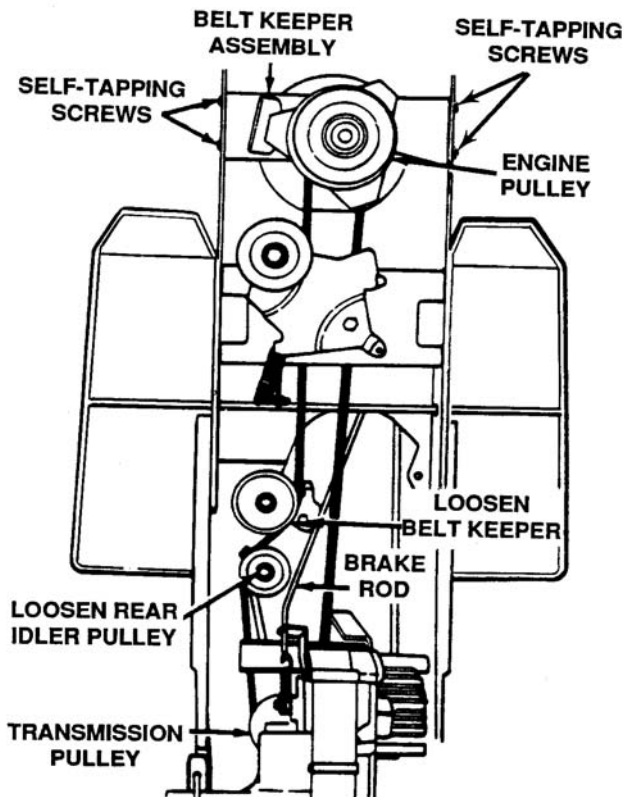

Figure 7-65. Drive Belt Replacement
4. Remove the four self-tapping screws which hold the belt keeper assembly to the frame at the engine pulley. Push the belt keeper assembly forward out of the way. See Figure 7-65.
7. Loosen the rear idler pulley. Remove the belt from around both idler pulleys. See Figure 7-65.